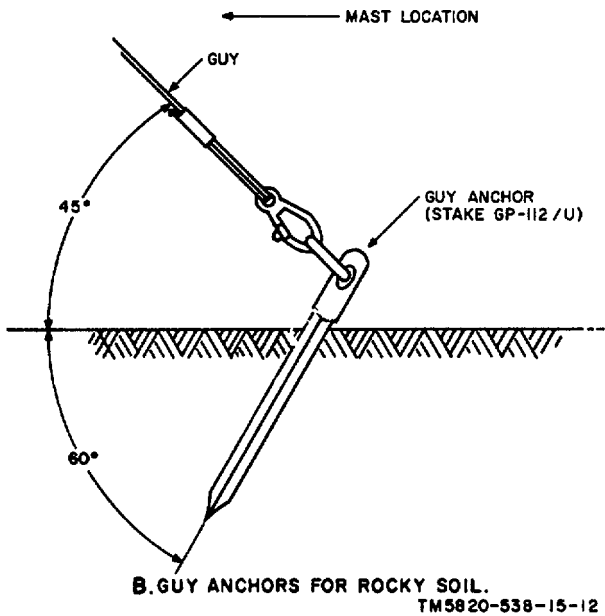

Figure 2-8. Guy anchors installed in earth.
- (c) Start the anchor vertically into the earth, then slant the top of the rod approximately 45° toward the mast base location (A, fig. 2-8).
- (2) When using GP-112/U stakes for rocky soil:
- (a) Use the digging bar and hammer to drive a hole for the stake no wider or deeper than necessary. The slope of the hole should be at approximately a 00° angle, slanted away from the mast base location (B, fig. 2-8).